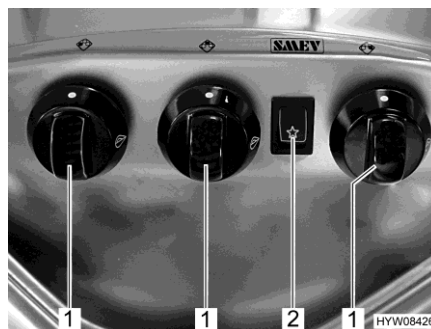

Fig. 192 Operating controls (gas cooker)
- Turn the control knob (Fig. 192,1) on the burner you wish to use to the ignition position (large flame).
- Press rocker switch (Fig. 192,2). Ignition sparks are generated at the burner.